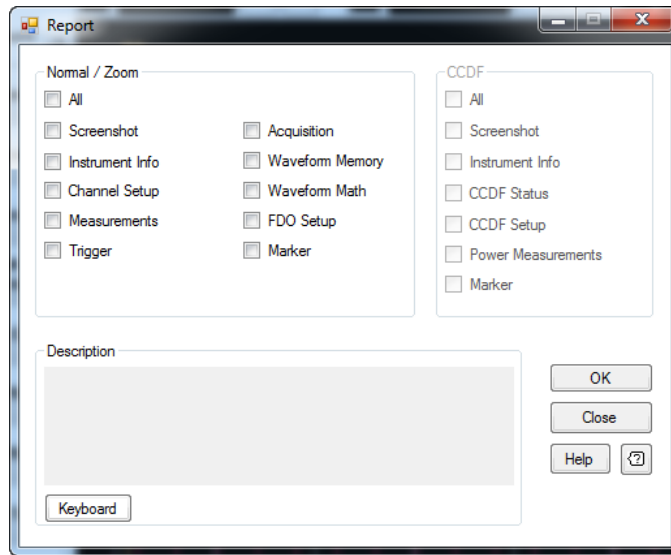

Figure 2-152 Report dialog
- 2 The Report dialog is displayed as shown in Figure 2-152.